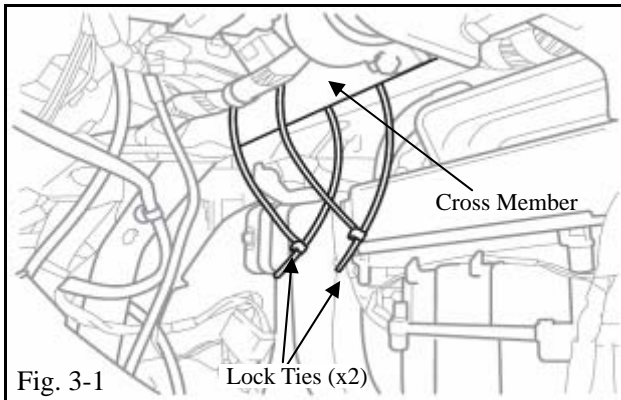

Fig. 3-1
(b) Place two (2) 14" lock ties around the cross member as shown. (Fig. 3-1)